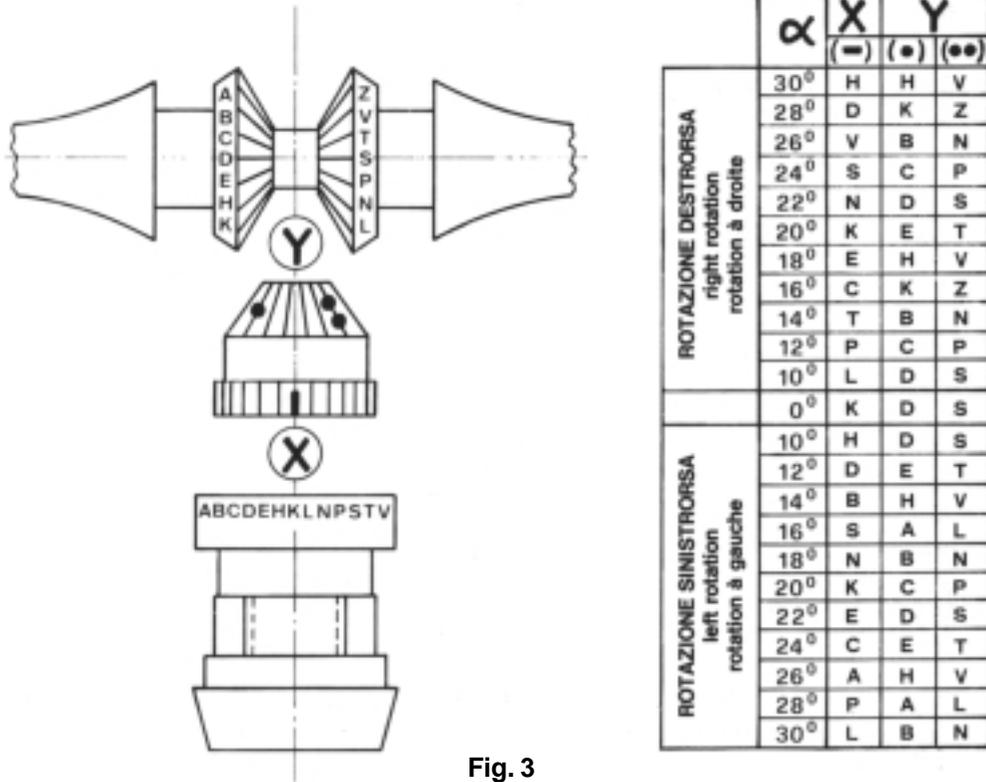

Fig. 3
3) **ASSEMBLY:** Make sure that if you receive more than one propeller that you do not interchange parts. Each propeller is individually balanced and if interchanged it will be put out of balance. Please use figure 3 in the instruction book for part number references.
- The numbers above are from Figure 3 at the beginning of this Max-prop Manual